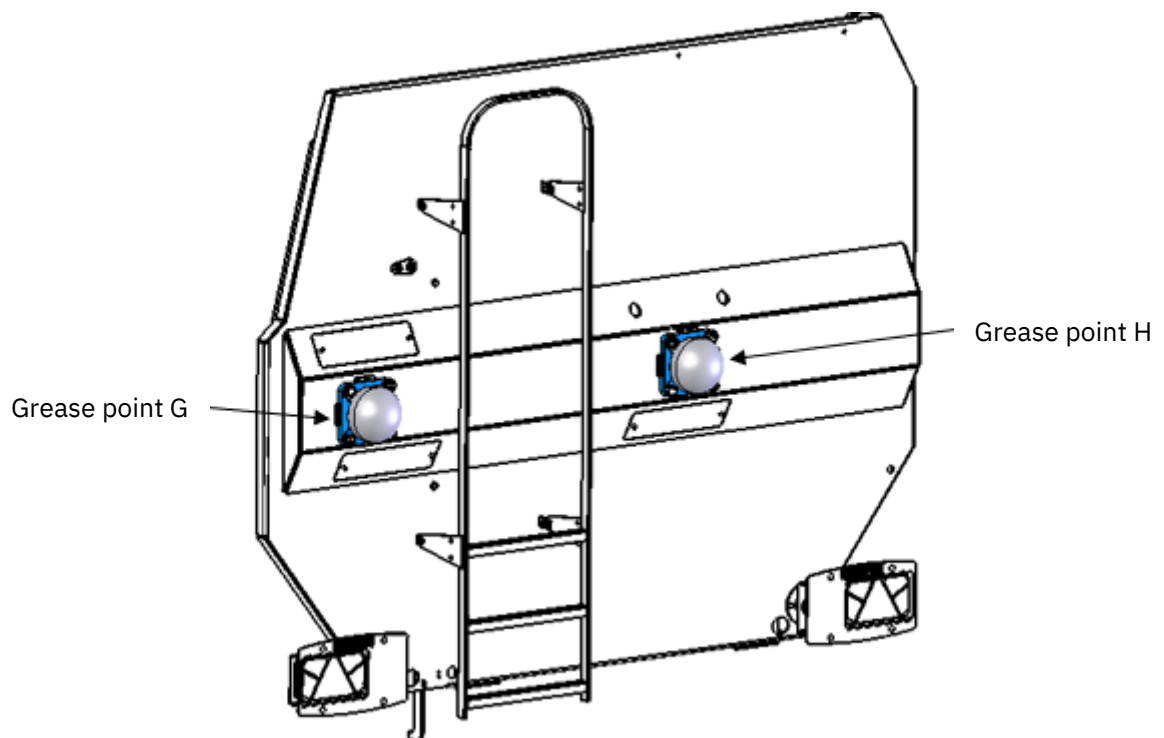

Figure 6: Rear grease points
- The two main bearings at the rear of the KEENAN MechFiber+ (G and H, Figure 6).